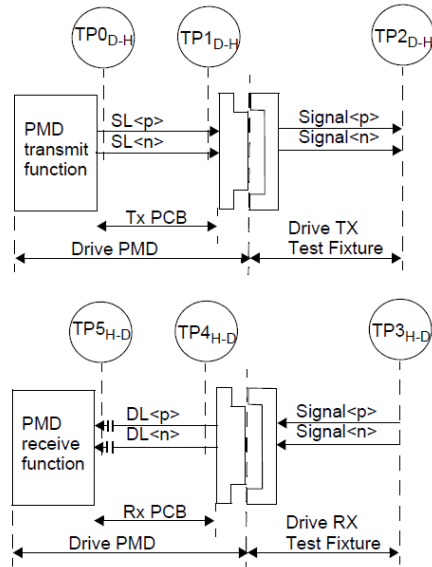

Figure 130A-5—Drive compliance board
- Figure 130A-2 is incorrect in a couple areas.
In Figure 130A-1, the test point adjacent to the PMD transmit function is TP0 but here it appears to be TP1. Which is correct?
Clarify the difference between the diagrams in Figure 130A-2.
- Figure 130A-5 is incorrect in a couple areas.